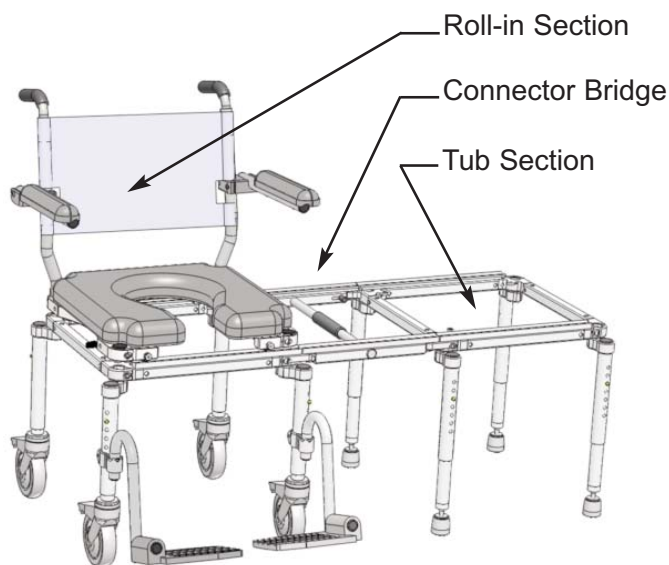

Figure 1
**B** The multiCHAIR 6000tx (Refer to Figure 1) is composed of three sections: the roll-in section with offset legs and 5" casters, the connector bridge section, and the tub section which has non-pinned offset legs and adjusting feet. The chair is shipped standard with the tub section positioned on the user's left side.